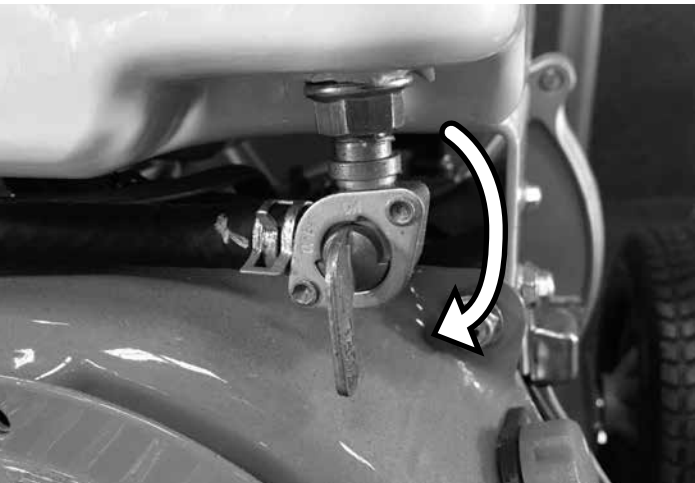

FIGURE 1
- Turn fuel valve to the “on” position. See figure 1.